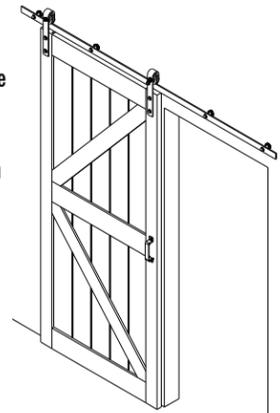

Figure 1
Step 1) If your door closes to the right, use this sheet (see Figure 1). If your door closes to the left, use the sheet titled "Door Closes to the Left". Follow the main instruction sheet provided to correctly install the rail to your wall before installing the trigger arms to the top of your door.